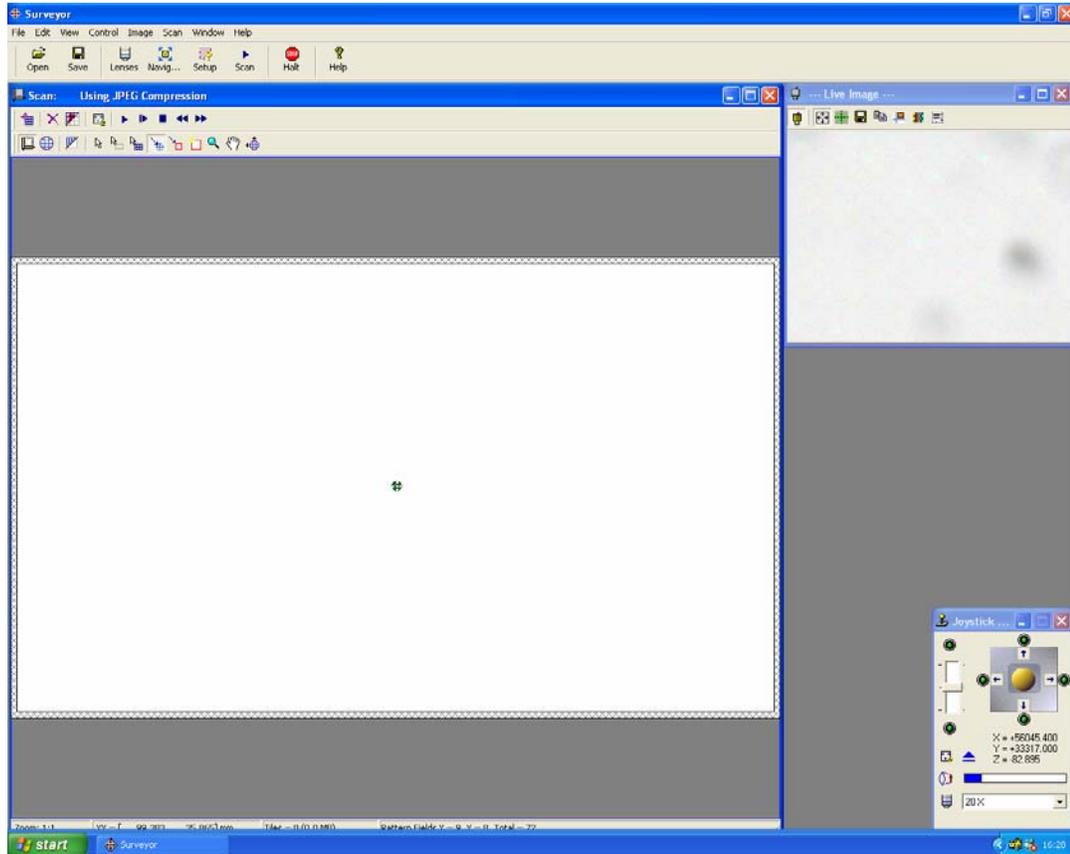

Fig. 10
4. Your display should now look something like Fig. 10 (below).